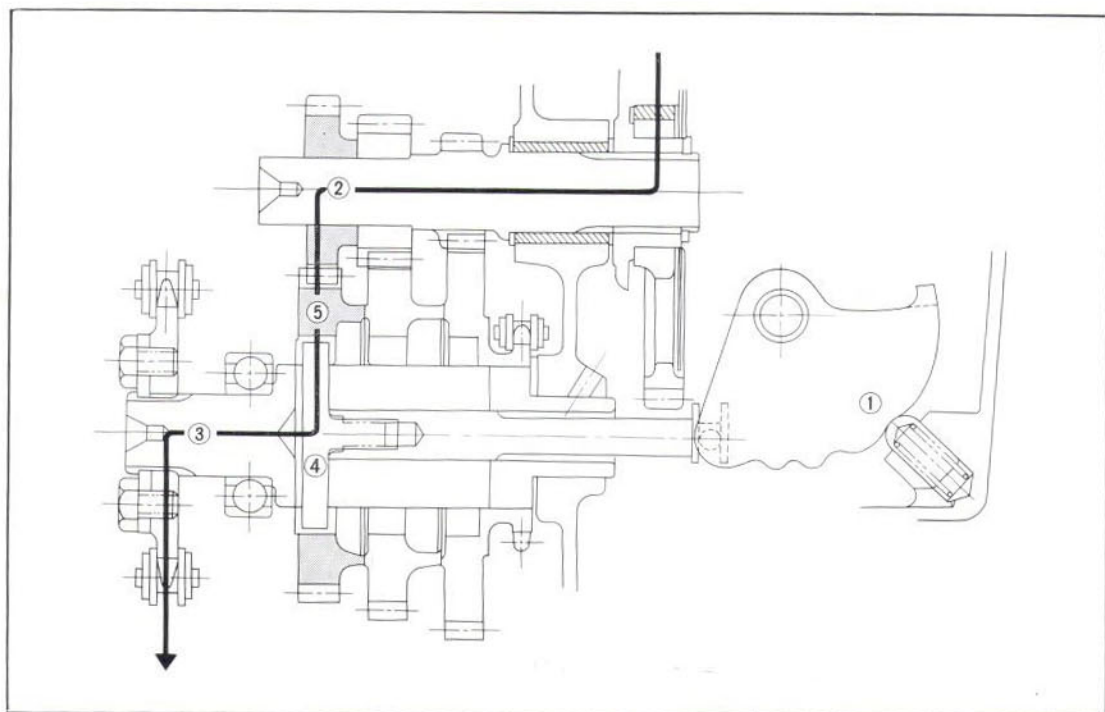

Fig. 3.61 Top gear
In top gear, the gear shift arm is in position ② shown in Fig. 3.61, the gear changed pawl is engaged with the counter shaft top gear.